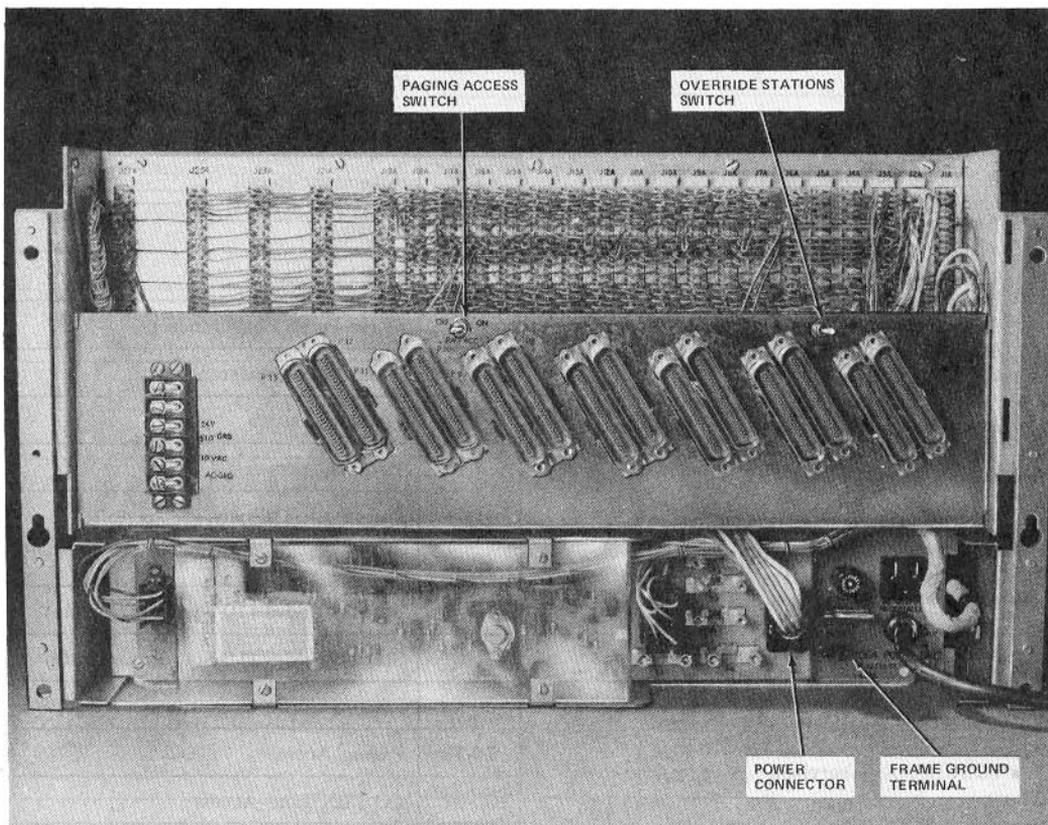

Fig. 1—572A1 KSU (Rear View)◆
2.03 All wiring, except power, is brought into the 572A1 KSU through connector cables plugged into the rear of the unit (Fig. 1). An optional 184C1 backboard has been developed as a terminal field for the 6B KTS, or existing blocks in the yellow field of a centralized key system can be used.